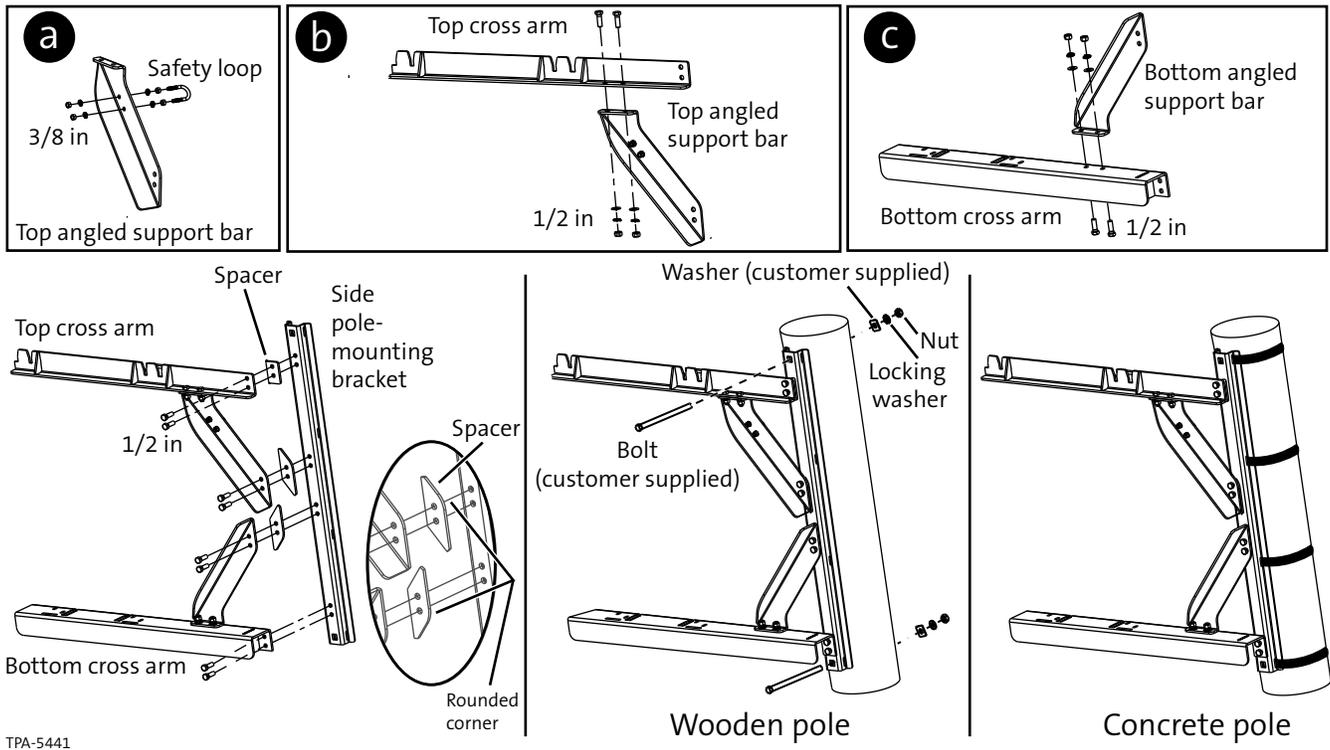

Figure 7
- Step 4:** Using the spacers as shown in Figure 7, attach the side pole-mount assembly to the side pole-mounting bracket with 1/2-in hardware. Ensure spacers are oriented as shown in the inset.
- Step 6:** Hang the cabinet over the top cross arm as shown in Figure 7 upper left inset.
- Step 7:** Secure bottom angled bar to bottom cross arm as shown in Figure 7 lower left inset.
- Step 8:** Cover the lifting eyes on each side of the housing with covers and secure with 10/32 nylon lock washers as shown in Figure 7 right inset.